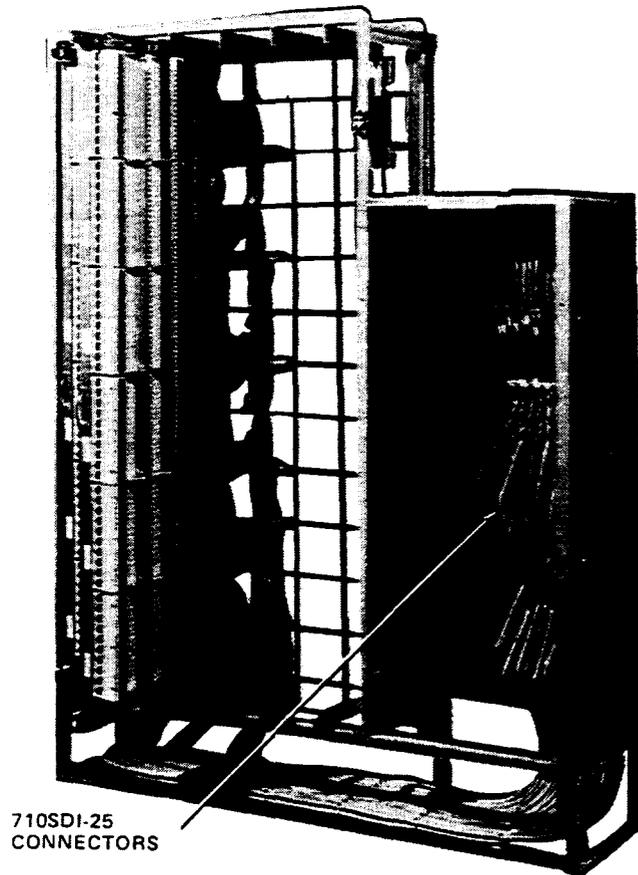

Figure 14—SDA With Splice Cabinet Cover Removed
5.25 The SDA (Figure 14) provides high-density bulk protection for voice and data lines using 3- or 4-type protector units. When pulled, the drawer telescopes out about 15 inches and latches. The connectors are mounted laterally in the frame vertical. After servicing, the drawer is manually unlatched and pushed back into its stored position.